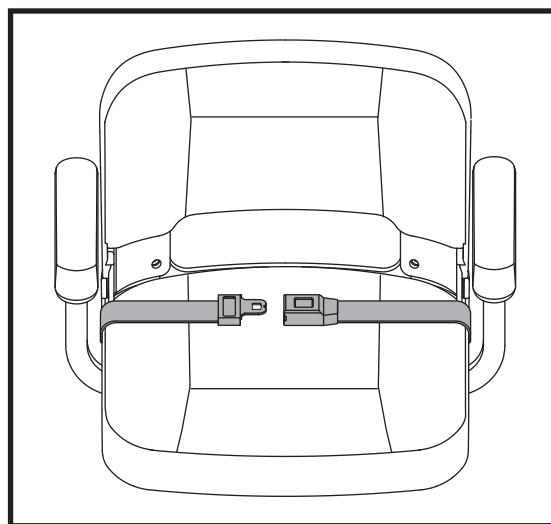

Figure 17. Positioning Belt
Your scooter seat may be equipped with an auto-type positioning belt that can be adjusted for operator comfort. See **figure 17**. The positioning belt is designed to help support the operator so that he or she does not slide down or forward in the seat. The positioning belt is not designed for use as a restraining device.
1. Insert the metal tab on the right side of the belt into the plastic housing on the opposite strap until you hear a “click.” See **figure 17**.